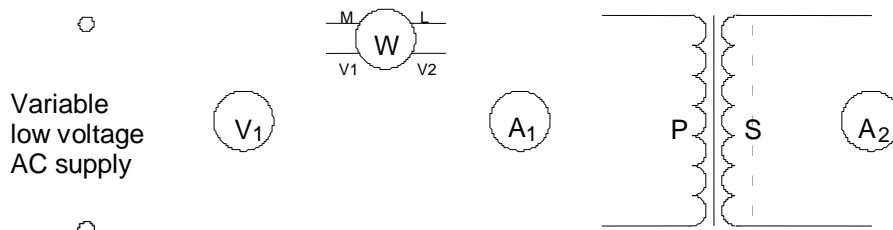

Figure 1
1. Re-draw the components in figure 1 to show the connections required to carry out a short circuit test on the transformer.